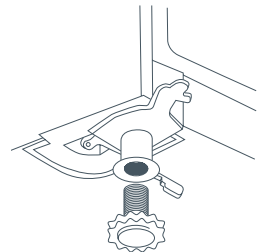

Fig.3 Bottom hinge
- Note: that it is rotated so that it is a mirror image of itself on the other side (refer Fig.3).